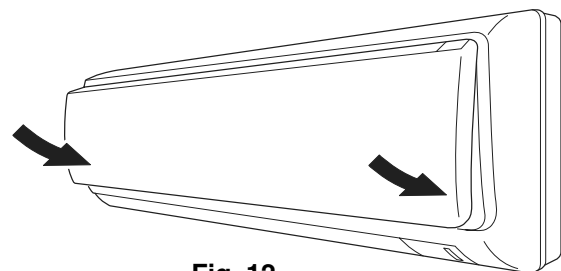

Fig. 12
- (6) Press the bottom right and left corners of the front panel to attach it to the indoor unit. (Fig. 12)